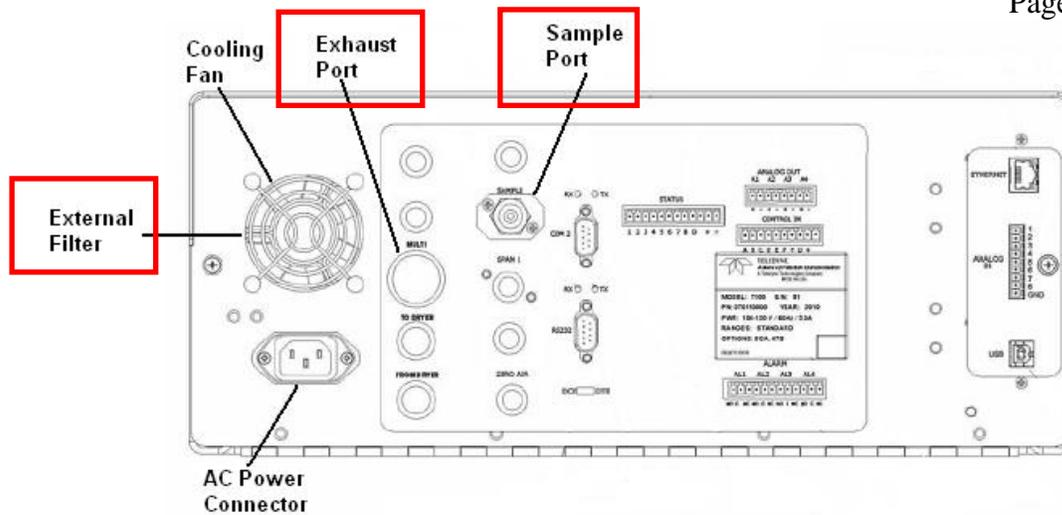

Figure 5 T200UP Rear Panel
1. Remove the exhaust port line from the instrument rear panel (see **Figure 5**, pg. 36).
2. Remove the sample line and cap the sample inlet port (see **Figure 5**, pg. 36), cap must be wrench-tight.